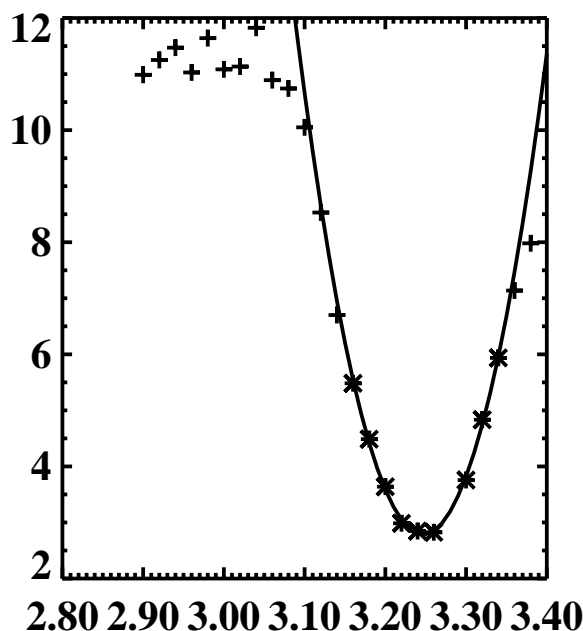

Figure 6.1: Plot of FWHM (pixels) vs. Focus Position (mm) for a sample focus run. The stars are the points used to fit the parabola.
The quality of the focus is determined by the median of the central subregion full-width-half-maximum (FWHM) measurements of the PSF made by SExtractor. For a given focus run, a parabola is fit to the plot of FWHM as a function of focus position, as in Figure 6.1. The best focus is determined to be the minimum of the parabolic curve. The error is determined to be the width at which the parabolic fit changes by 10% from the minimum value.
3. As it is processing, fits like that in Figure 6.1 are plotted. After each plot, the user is asked to confirm that the program has found a good fit. This helps reduce problems from cloudy data and other systematics.